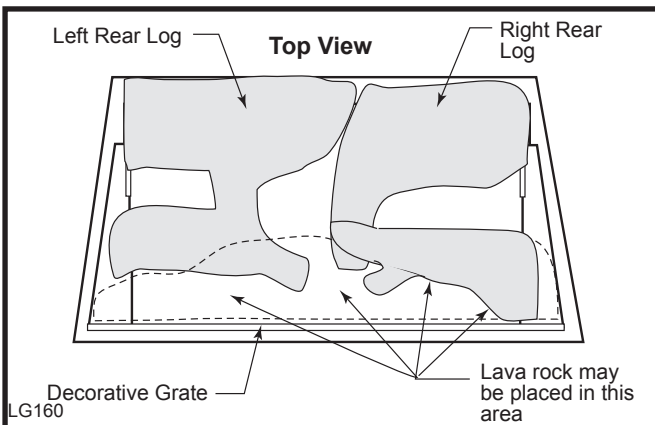

Fig. 24 Lava rock placement.
- Loosely sprinkle the lava rocks directly on top of the burner just behind decorative grate. (Fig. 24) Use the lava rock to cover brackets on the burner. Do not place lava rocks toward back of burner. The lava rock is shipped inside the bag assembly.